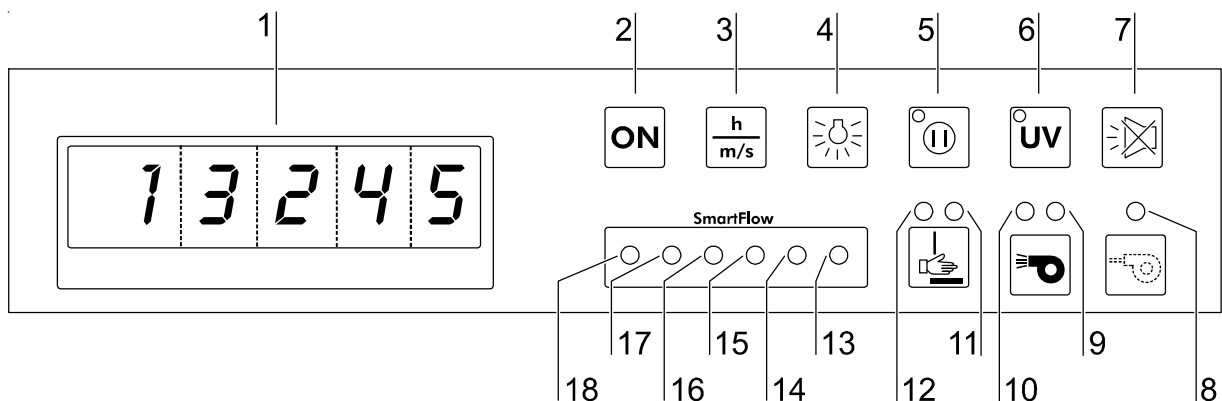

Fig. 12
**Status indicators, Fig. 12:**
**SmartFlow display, Fig. 12:**